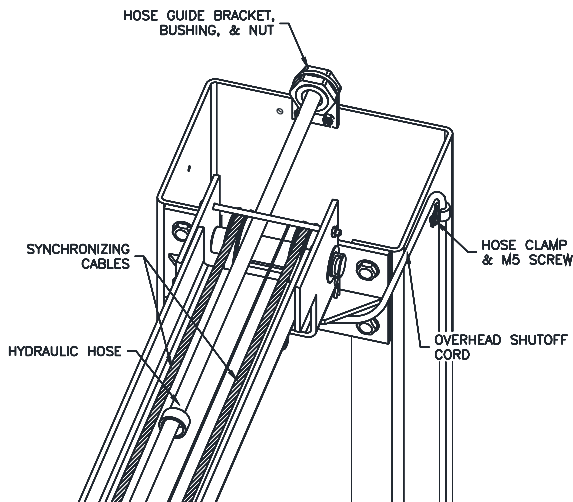

Fig. 7 – Power Side Routing
- 25) Beginning on the idler side, attach the idler extension hose to the cylinder elbow fitting (this hose is not needed for reduced height installations). Continue with the idler hose (long) up the backside of the column and through the plastic guide at the top of the column extension. Continue across the overhead through each of the guides as shown in **Fig. 7** and down the backside of the power column.
- 28) Hoses, cables, and limit switch cord should be routed as shown in **Fig. 7** for power side column extension. Route lines for the idler side using the hose guide bracket and idler side pulley bracket.